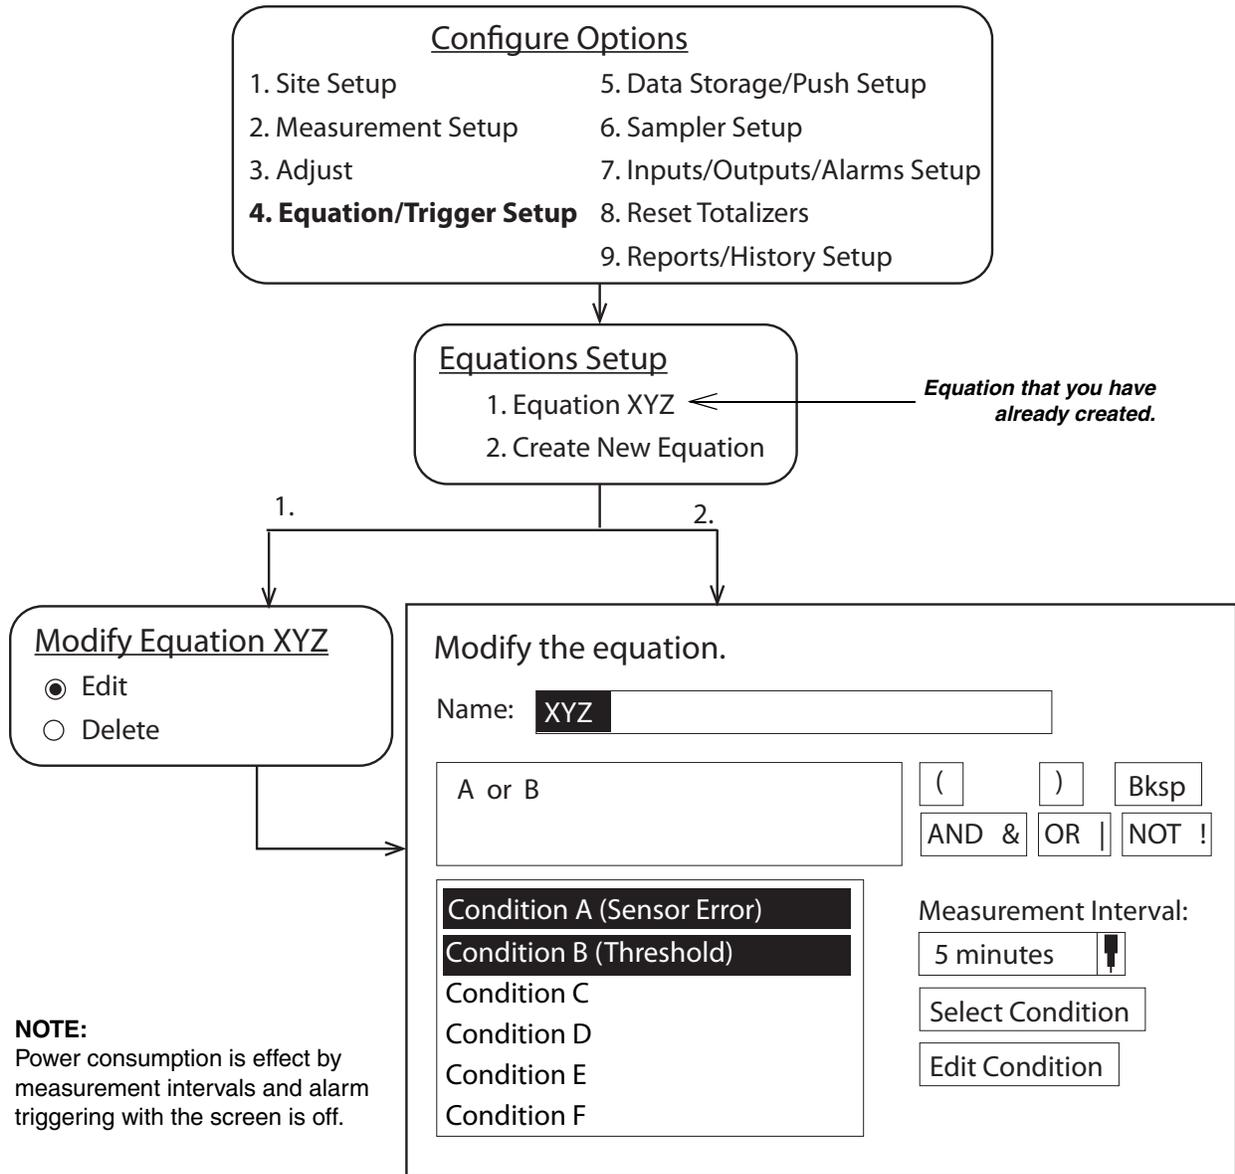

Figure 2-18 Example of defining conditions & building equations.
*Conditions* are sets of site-specific, user-defined parameters. Refer to Figure 2-18 on the following page.